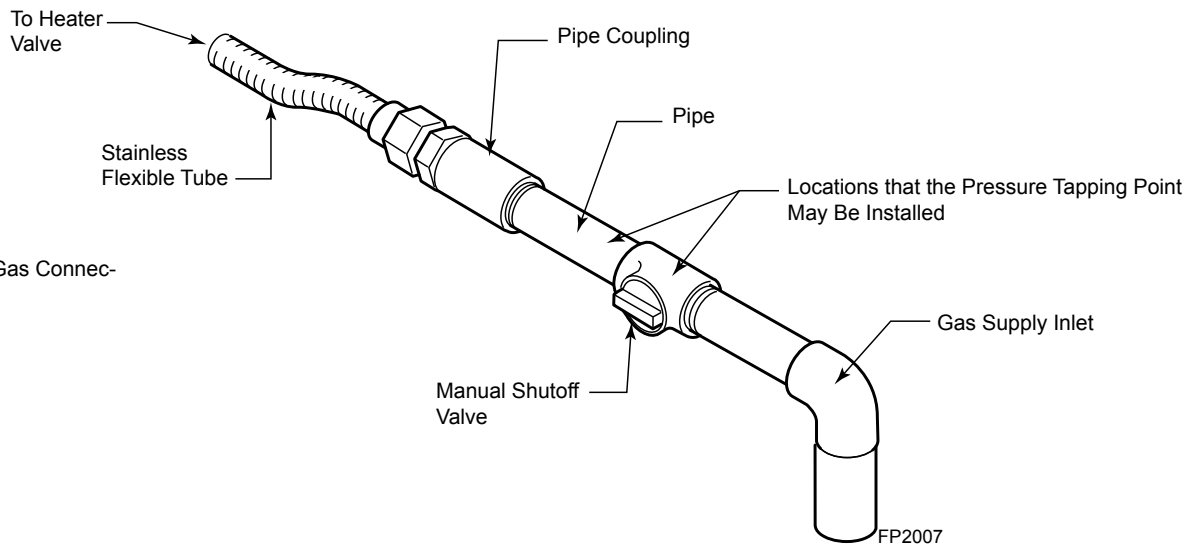

Figure 12. Gas Connection
2. Anchor holes are located on the right and left sides of the unit. After centering the burner correctly, mark the hole positions on the fireplace/firebox floor. Drill two (2) 5/32" diameter holes approximately 1 1/2" deep.
3. Anchor the burner to the fireplace/firebox floor using the screws provided. *Figure 12*